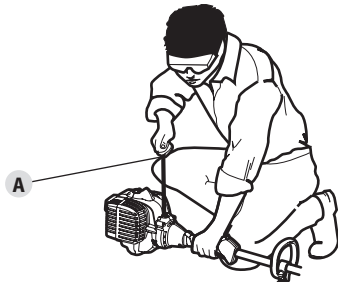

Fig. 14
WARNING: Avoid accidentally starting the unit. To avoid serious injury, the operator and the unit must be in a stable position when pulling the starter rope (Fig. 14).
3. Crouch in the starting position (Fig. 14).
5. Pull the starter rope (Fig. 14-A) with a controlled and steady motion **5 times**. **DO NOT** pull the starter rope more than 5 times.